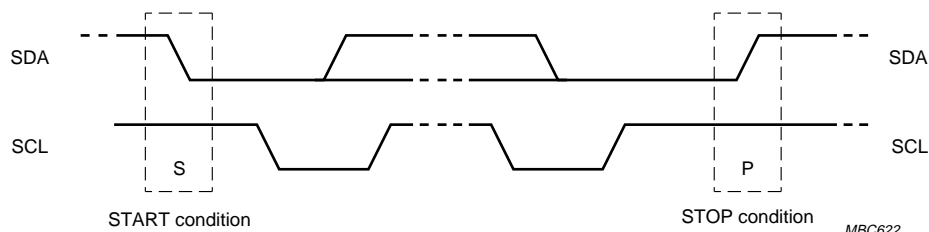

Fig.4 Definition of start and stop conditions.
8.2 Start and stop conditions (see Fig.4)